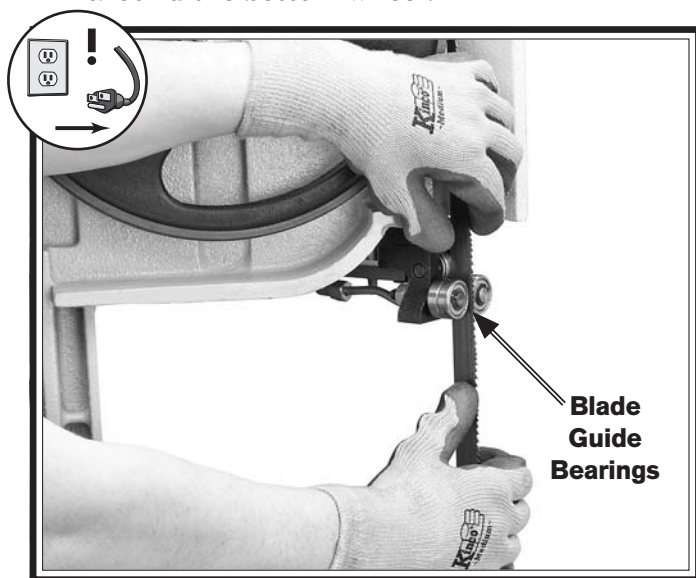

Figure 19. Typical blade installation.
5. Install the new blade through both blade guide bearings, as shown in **Figure 19**, and around the bottom wheel.